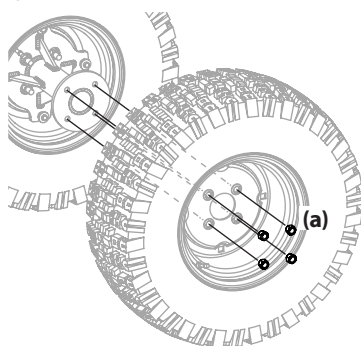

Figure 45
1. Remove the four outer lug nuts (a) to remove the outer wheel. See Figure 45.